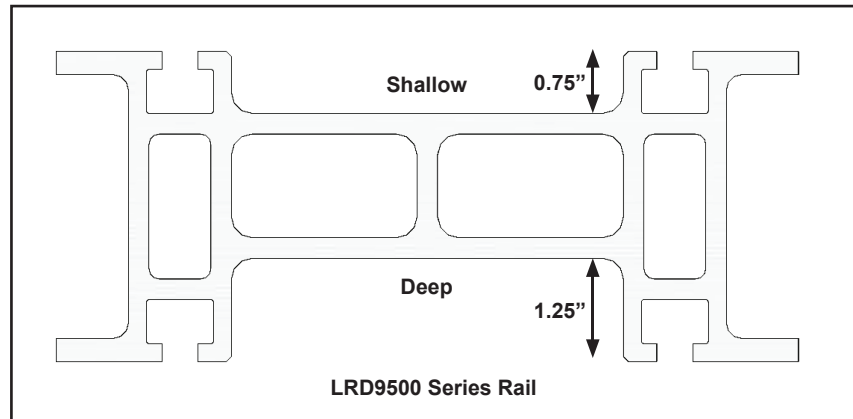

Figure 1
- Step 1. Refer to installation drawings for placement of mounting plates and mark onto rail. Mounting plates should be installed on shallow side of the rail. See Figure 1.
- Step 1. Refer to installation drawings for placement of post mounting plates and mark onto rail. Mounting plates should be installed on shallow side of the rail. See Figure 1. (Floor posts are custom for each application. The post shown is not a standard product of Knight Global.)
- Step 1. Ensure that (8) M8 x 35mm bolts and lock washers are loose holding the (4) mounting plates and (4) mounting blocks together so the assembly can slide easily into the mounting channels.
- Step 2. Slide end cap assembly into mounting channels at the end of the rail. Ensure that the shock assembly is in the deep channel of the rail. See Figure 1.
- Step 1. Determine which side of the rail the carriage will be installed on. Carriage should be installed on deeper side of the rail. See Figure 1.
- Step 1. Determine which side of the rail the mid-rail stop will be installed on. Ensure that the shock assembly is in the deep channel of the rail. See Figure 1.